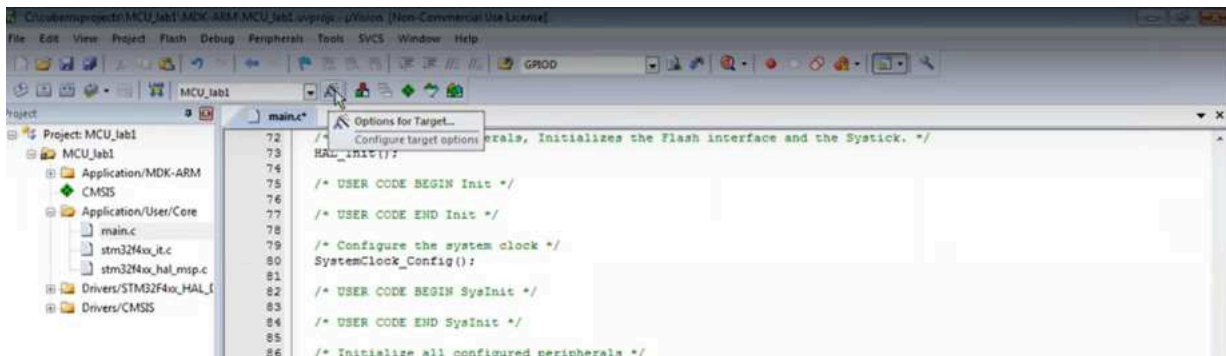
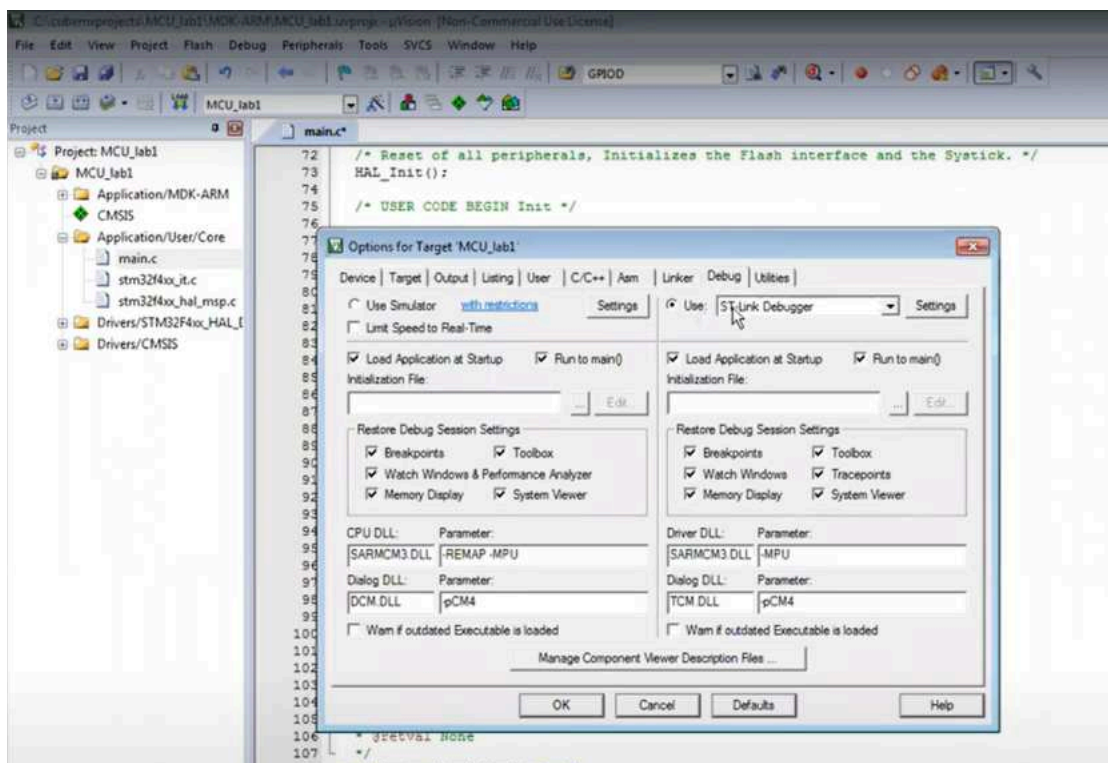
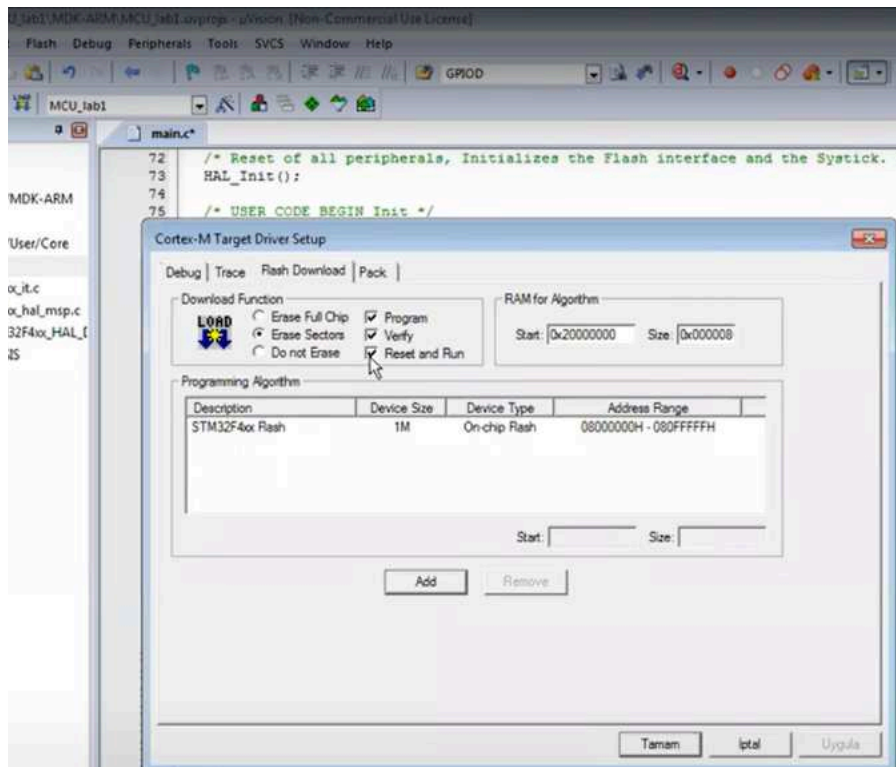
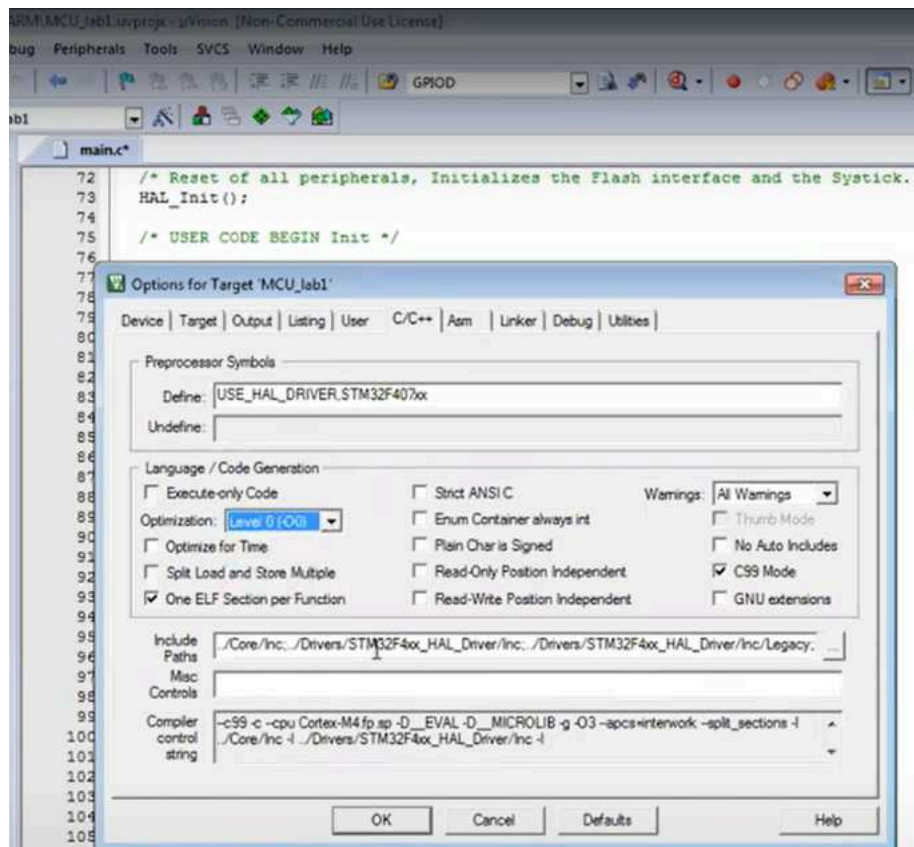

Figure 14
Figure 15
Figure 16
Figure 17
8. Select “Options for Target” menu (Figure 14). Come to the “Debug” menu and select “ST Link Debugger” and ‘Settings’, respectively (Figure 15). Then choose “Reset and Run” from “Flash Download” so that when you run our code, it will reset its previous information. If you do not select it, you have to press the reset button for the code to run (Figure 16). When you go back to the previous menu, you should choose the “C++” menu and select the “Level 0” for Optimization (Figure 17).